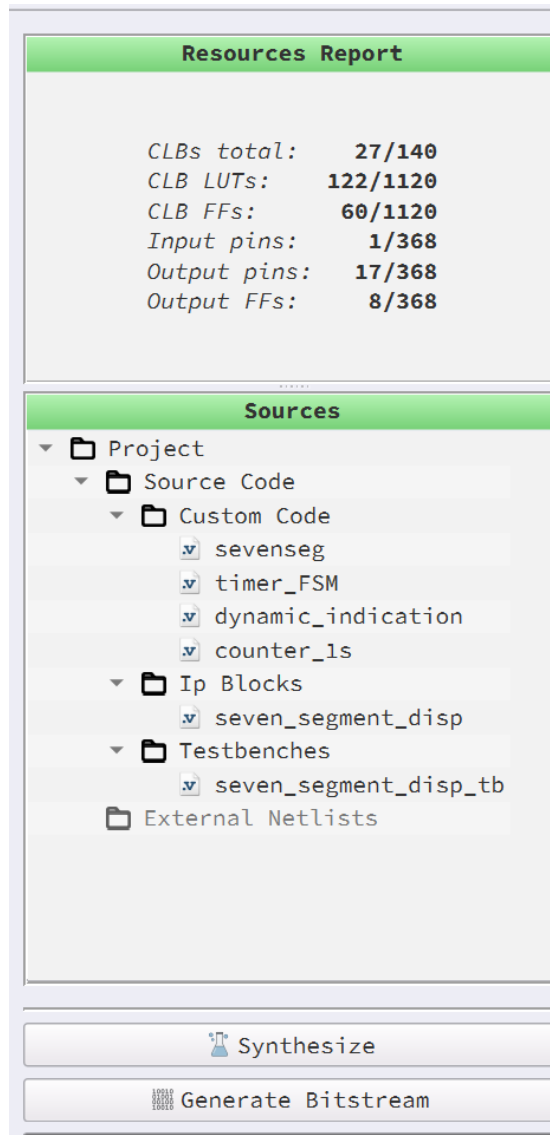

Figure 4: File Structure and Resources Used
4. Open the FPGA editor and review the Verilog code. There is a main code with the module name seven\_seg\_counter, which is the top module defining the whole design. There are 3 sub-modules designed in this example along with an IP Block. All these sub-modules are integrated together to form the top module as function as intended (see Figure 4 for structure).